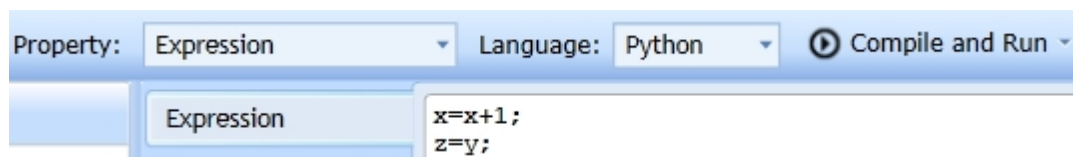

Figure 3: Expression Editor - Changing variables' values
- 2) We will now increment x by one and define the new variable z that takes its value from y (See Figure 3)